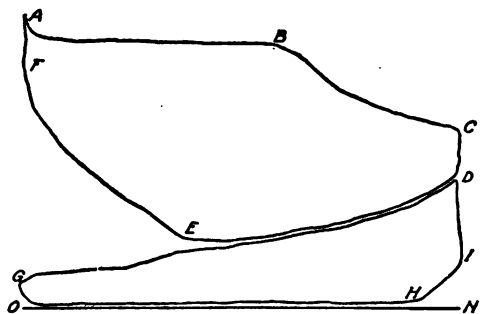

Fig. 21. Indicator Diagram of a Stationary Compound Steam Engine
*Comparison of Indicator Diagrams for Stationary and Automobile Engines.* Fig. 21 is a combined diagram from the high- and low-pressure cylinders of a stationary compound engine. Both cards are drawn to the same scale as regards stroke, but the low-pressure card reads from right to left.